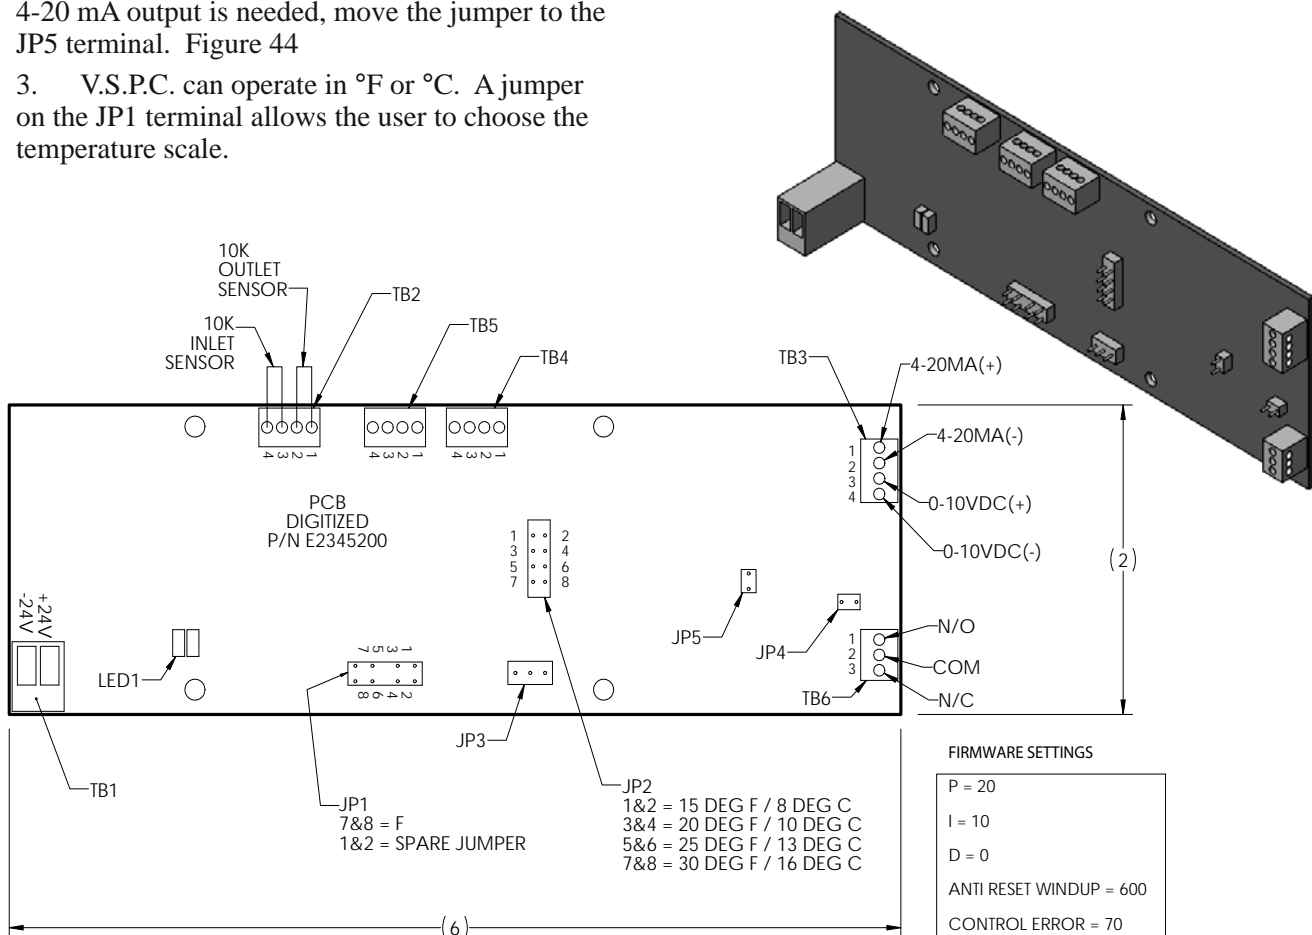

Figure 44. V.S.P.C. Digital Circuit Board
1. The desired Delta T can be set to any of the following values by moving or adding jumpers to the JP2 terminal on the control: See Figure 44
2. As shipped, the V.S.P.C. has a jumper on the JP4 terminal, to operate a 0-10 VDC output. If a 4-20 mA output is needed, move the jumper to the JP5 terminal. Figure 44